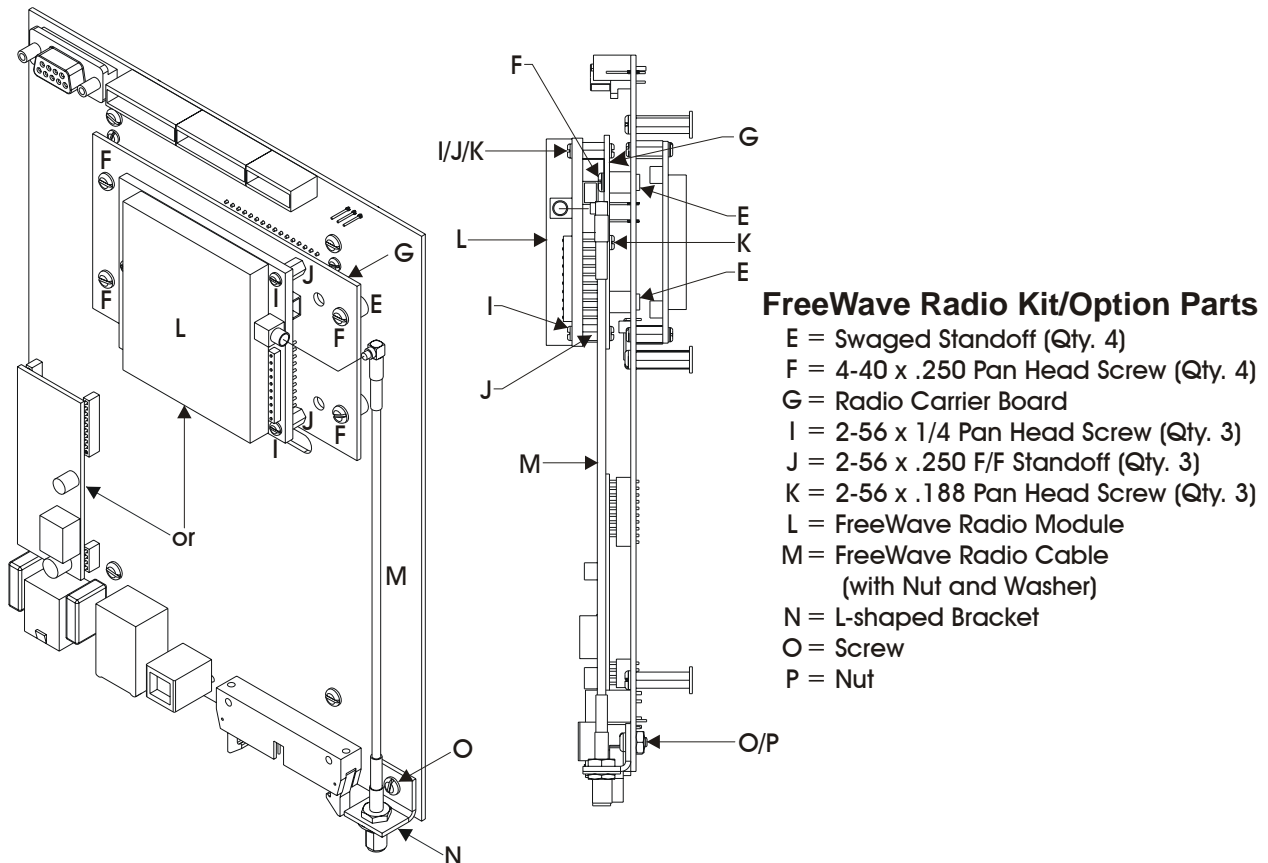

Figure D1 - FreeWave Radio Installation Diagram
- 2-56 x .188" Pan Head Screw (Nylon) (Qty. 3) - Fig. D1 Reference = K
- 2-56 x .250" F/F Standoff (Nylon) (Qty. 3) - Fig. D1 Reference = J
- 2-56 x .250" Pan Head Screw (Qty. 3) - Fig. D1 Reference = I
- 4-40 x .250" Pan Head Screw (Qty. 4) - Fig. D1 Reference = F
- Swaged Standoff (Qty 4) - Built into CPU/System Controller Bd. - Fig. D1 Reference = E
- Radio Carrier Board - Fig. D1 Reference = G
- FreeWave Radio Module - Fig. D1 Reference = L
- FreeWave Radio Cable - Fig. D1 Reference = M
- FreeWave Radio Cable Mounting Hardware - Fig. D1 Reference: N = L-shaped Bracket, O = Screw and P = Nut